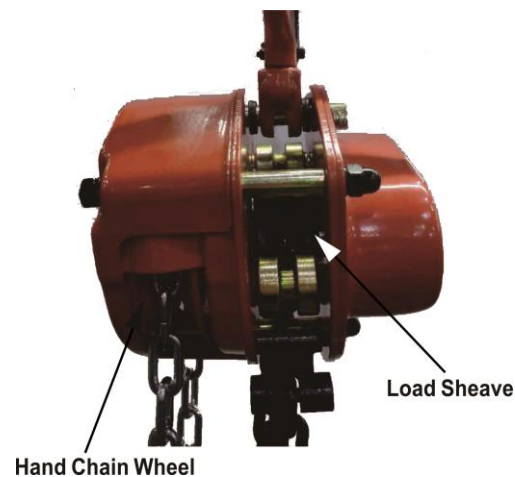

Figure 11
8. If installing entire new chain, insert the end of the hand chain into the groove at the top of the hand chain wheel (see Figure 11). Rotate the hand chain wheel and pull the chain through.
Remove the old load chain as follows while referring to Figure 11: